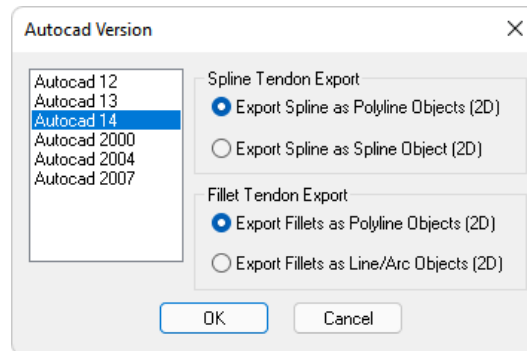

FIGURE 9-132
- Go to **File** → **Export** → **DWG**. This will open the AutoCAD Version window where you can choose the drawing version as well tendon Spline and Fillet options, as shown in **FIGURE 9-132**.